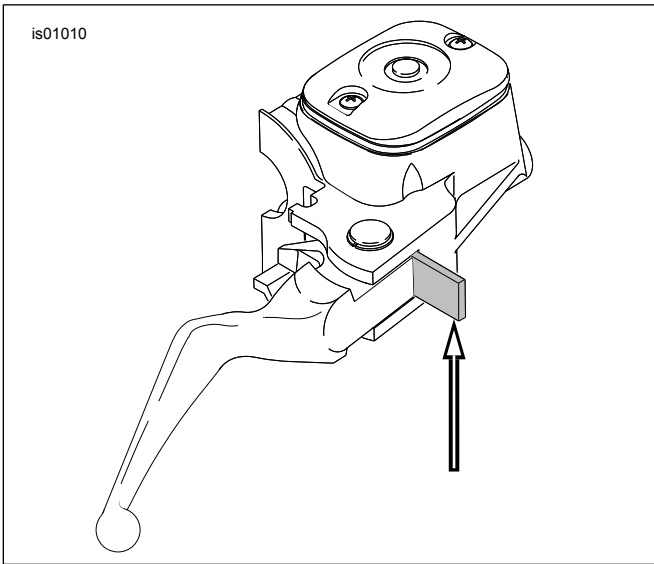

Figure 2. 5/32 in. (4 mm) Cardboard Insert
3. See Figure 2. Place the cardboard insert between the brake lever and lever bracket.